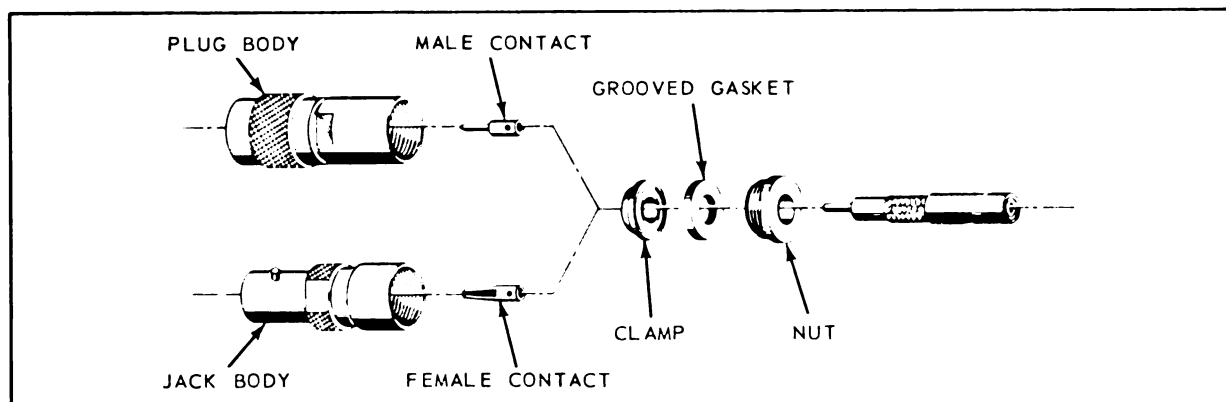

Figure 4-19. C Connectors - Exploded View
4-35. C CONNECTORS. (See figure 4-4.) There is only one version of C connector. It consists of a body assembled to coaxial cable by means of a nut, gasket and clamp. Table 4-2 lists the more common connectors in the C series and shows the coaxial cable associated with each. Plug UG-573B/U and Jack UG-572A/U are typical C Connectors. See figure 4-19.
a. Disassemble nut, gasket and sleeve clamp from plug or jack body. See figure 4-19.